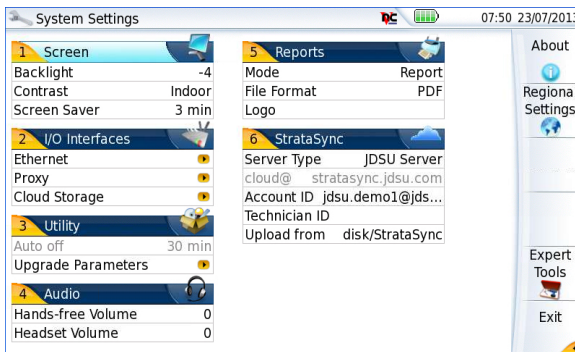

Figure 10 System Settings page
- **Indoor**: to be selected when the instrument is used inside (see Figure 10 on page 26)